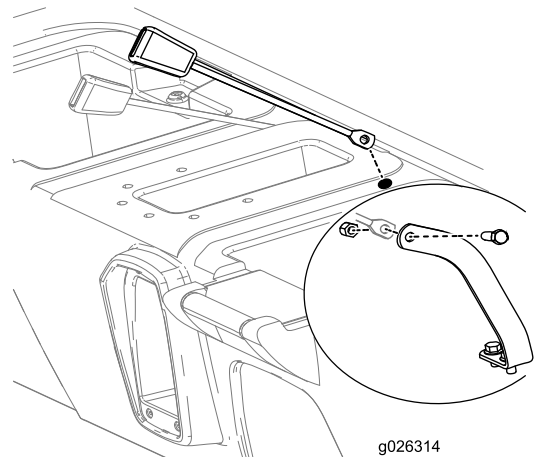

Figure 11
7. Insert the receiver end of each seat belt lock assembly into one of the newly drilled holes in the seat base (Figure 11).
8. While lifting the rear of the seat base to gain access, mount the receiver end of each seat belt assembly to each seat belt anchor with a bolt (7/16 inch) and locknut (7/16 inch) as shown in Figure 11.